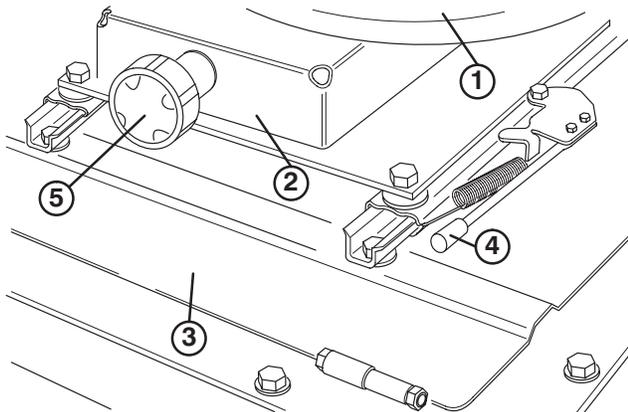

**Figure 7**
4. Secure seat suspension to seat mounting plate with (4) flange locknuts (Fig. 7).
5. Mount seat to seat suspension with (4) capscrews, lockwashers and flatwashers (Fig. 7).